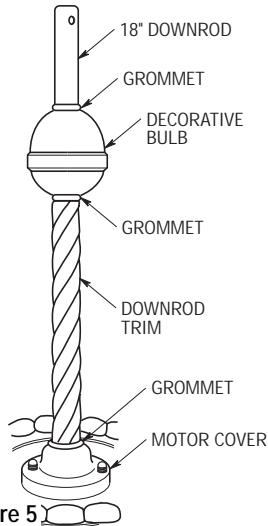

Figure 5
7. If you have installed the 18" downrod, install the downrod trim and decorative bulb as follows (Figure 5). Slide the decorative trim (grommet-end first) over the downrod and seat the grommet firmly against the motor cover. Then slide the decorative bulb (oriented as shown) over the downrod, being certain that the downrod trim seats in the bottom grommet of the decorative bulb.
8. Position the ceiling cover trim and the ceiling cover over the downrod. Be sure the cover is oriented correctly, with the large opening at the top (Figure 5).